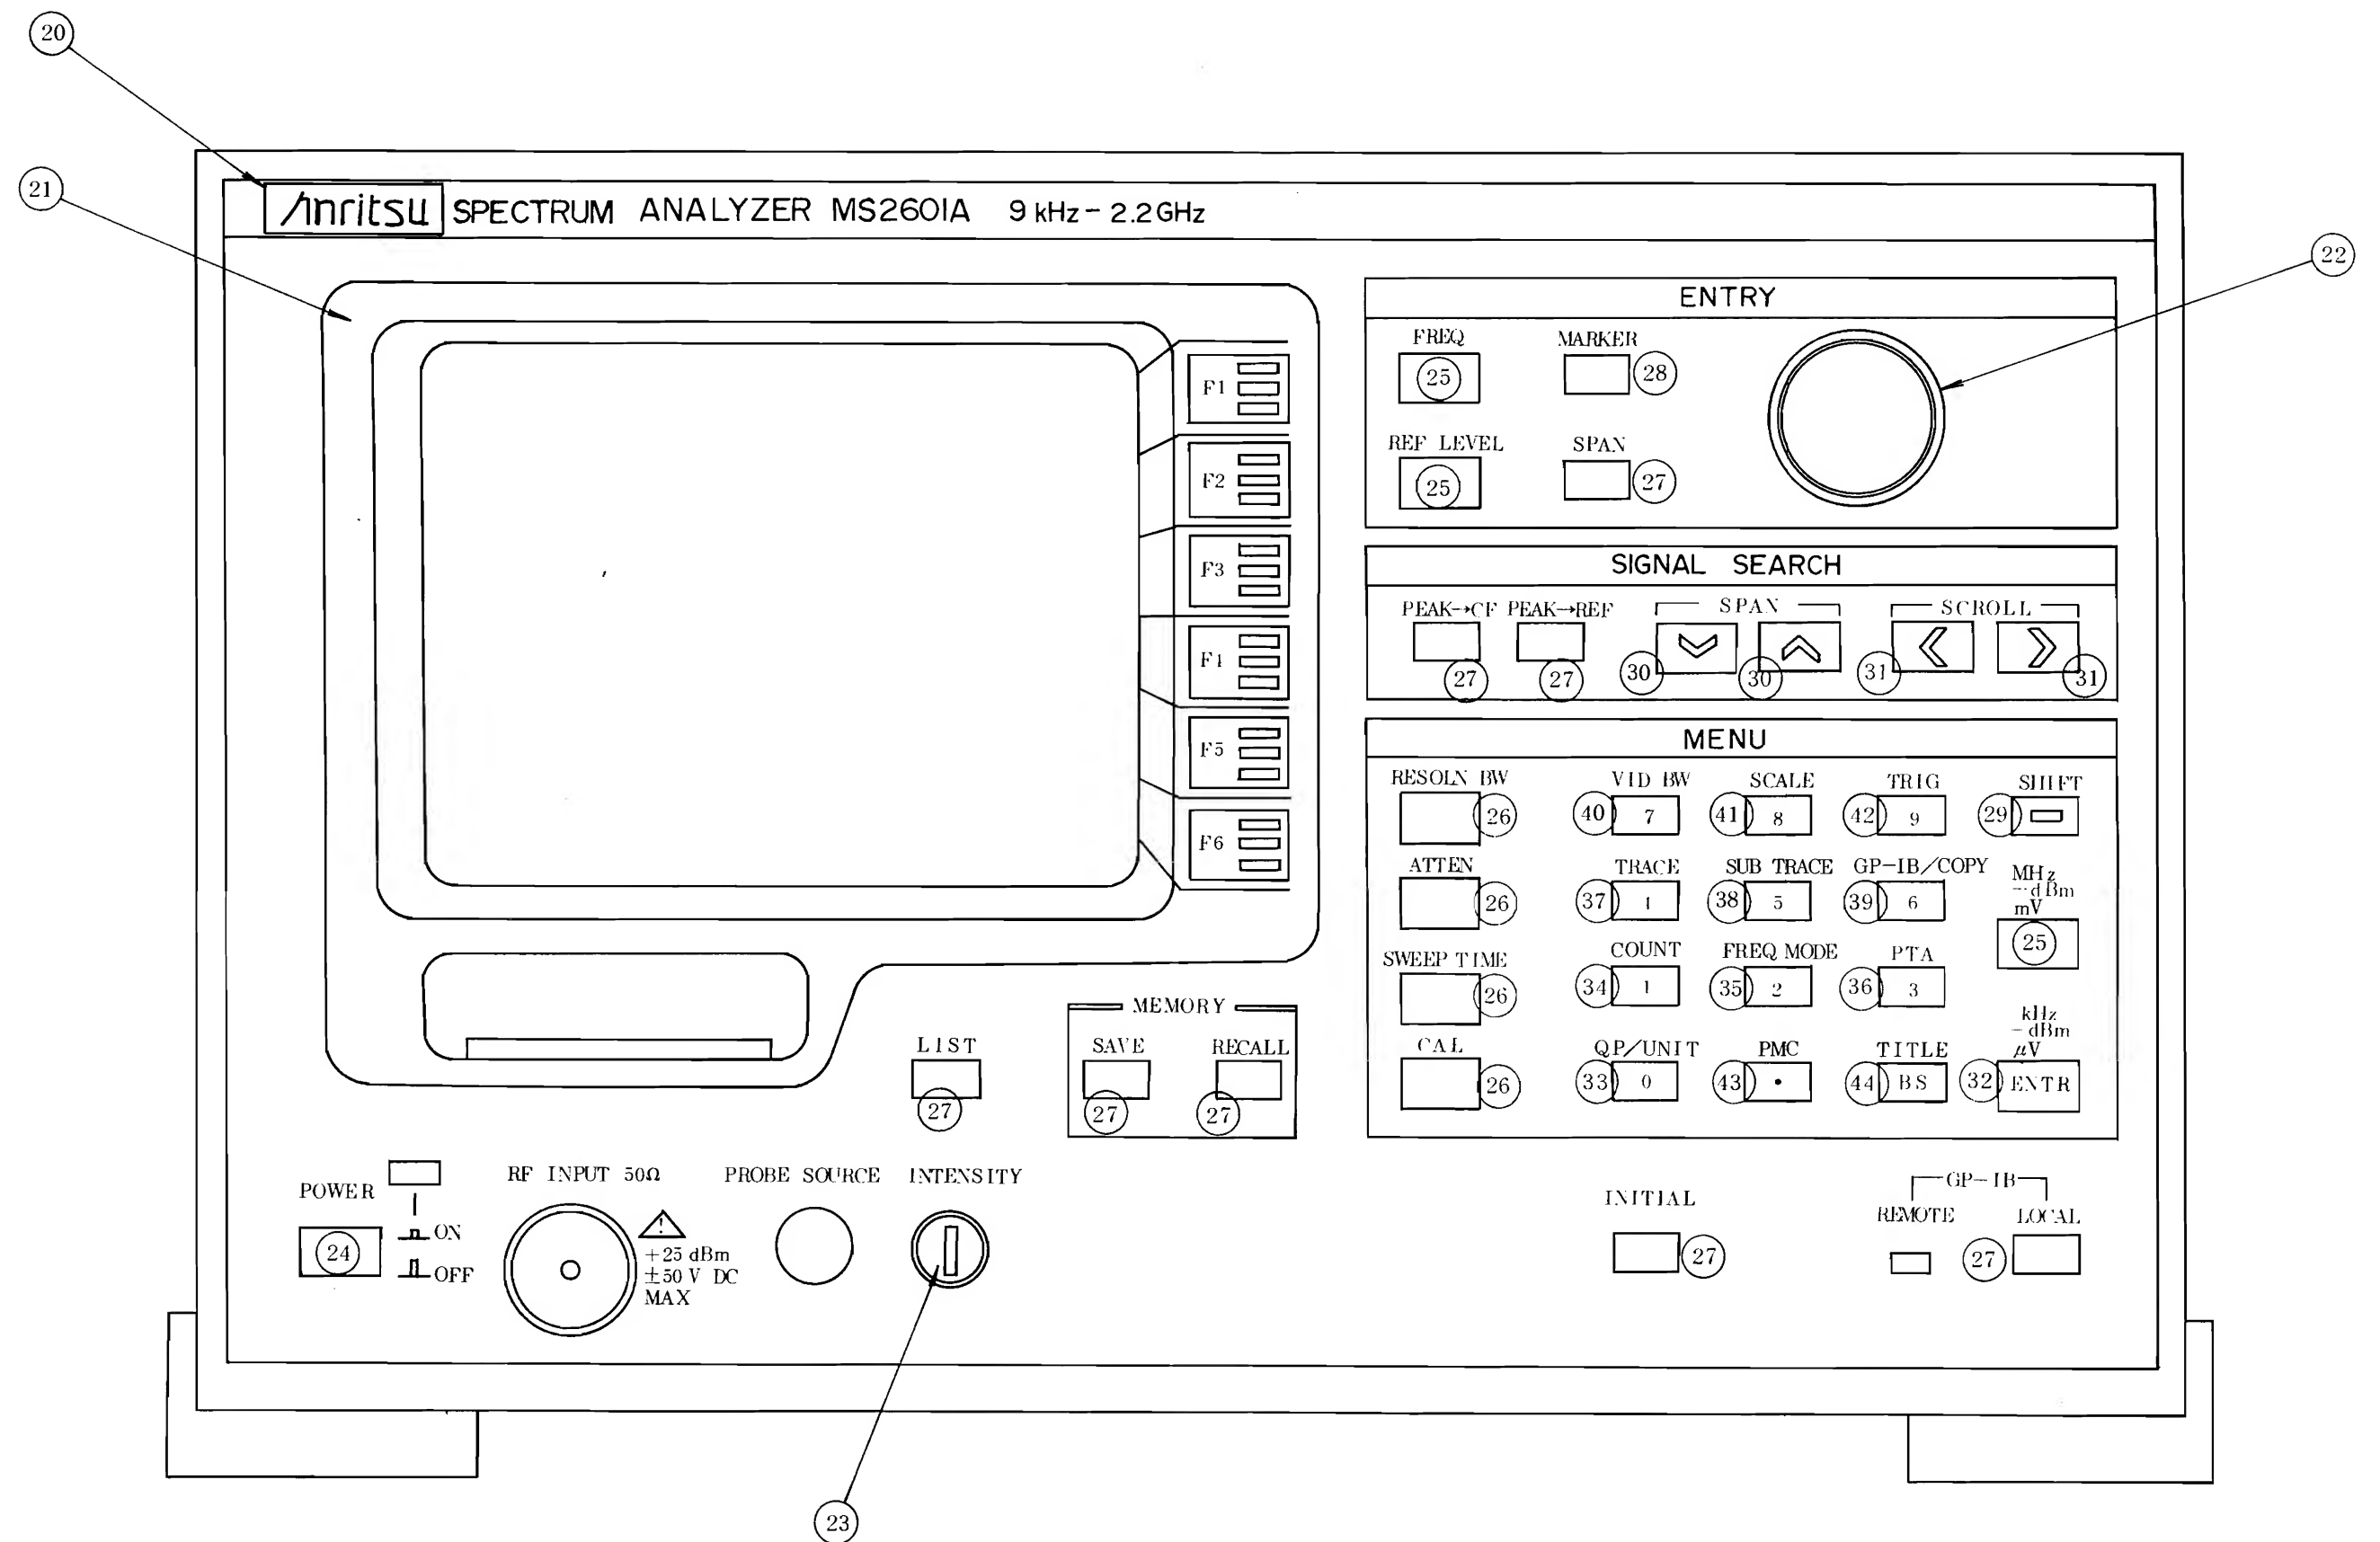

Fig. 2-2 Key Top Layout
(1) Key top removal
To replace the key tops shown in Fig. 2-2, remove the decorative panel (50) using the following procedures and pull off the key tops by holding them with pliers.
Table 2-2 Mechanical Parts List for Fig. 2-2